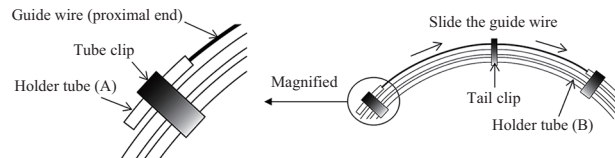

Figure 2
- Release the guide wire from the tail clip and slide the guide wire slowly, push distal end of the guide wire through the holder tube(B). (Figure 2)